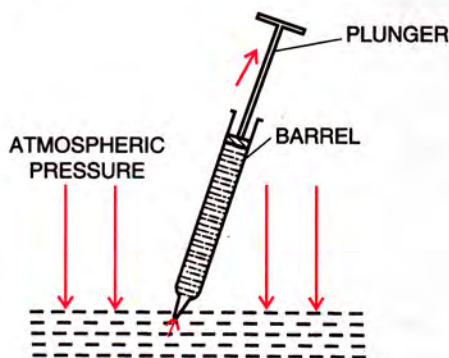

Fig. 4.15 Action of syringe
- (ii) **Filling a syringe with a liquid :** When syringe is kept with its opening just inside a liquid and its plunger is pulled up in the barrel (Fig. 4.15), the pressure of air inside the barrel below the plunger becomes much less than the atmospheric pressure acting on the liquid. As a result, the atmospheric pressure forces the liquid to rise up in the syringe.